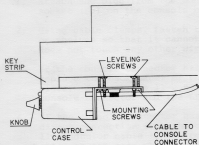
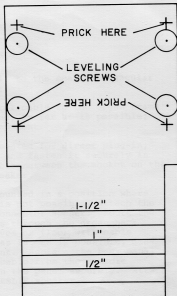

Figure 1. Control Mounted on Organ
Figure 2. Control Location and Mounting Pattern
CONTROL UNIT MOUNTING (figures 1, 2)
3. Indicate the control location on the under side of the shelf. Cut out the paper template (figure 2) provided in this instruction sheet.
6. Put the four leveling screws (flat-headed machine screws) into the holes indicated in figure 2, WITH THE HEADS UPWARD. Hold the control mounting bracket in position at the location marked for mounting. Adjust each of the four leveling screws so that the control is positioned just below the keybed, and is level. See figure 1.